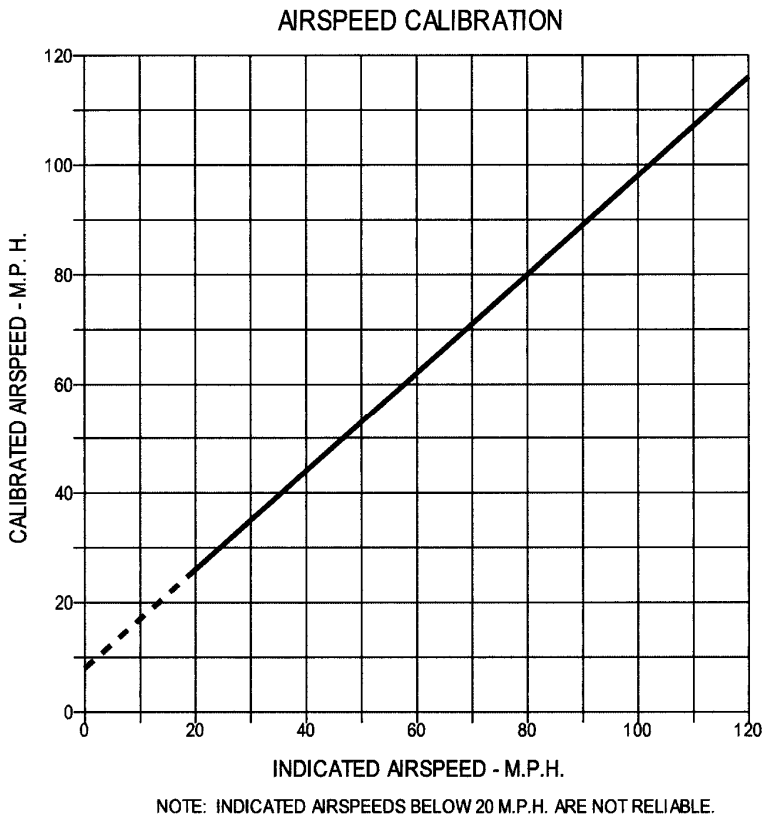

Figure 10-2-2. Airspeed Calibration Curve w/Float Pitot System (2350 lb)
2. Figure 10-2-2: Airspeed Calibration